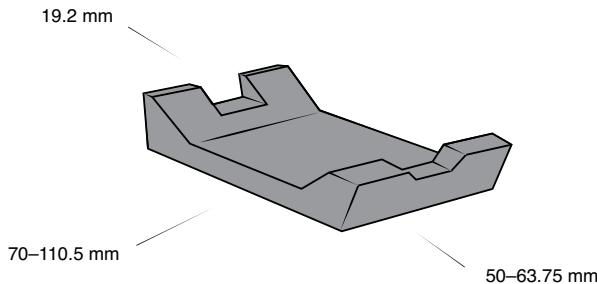

Fig. 18 : Example of a finished part.
- take the finished parts to the inspection station (see Fig. 18).